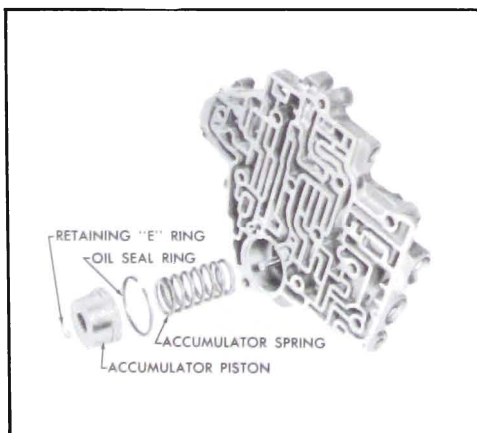

Figure 5-577
4. Remove front accumulator piston and spring. See Figure 5-577.